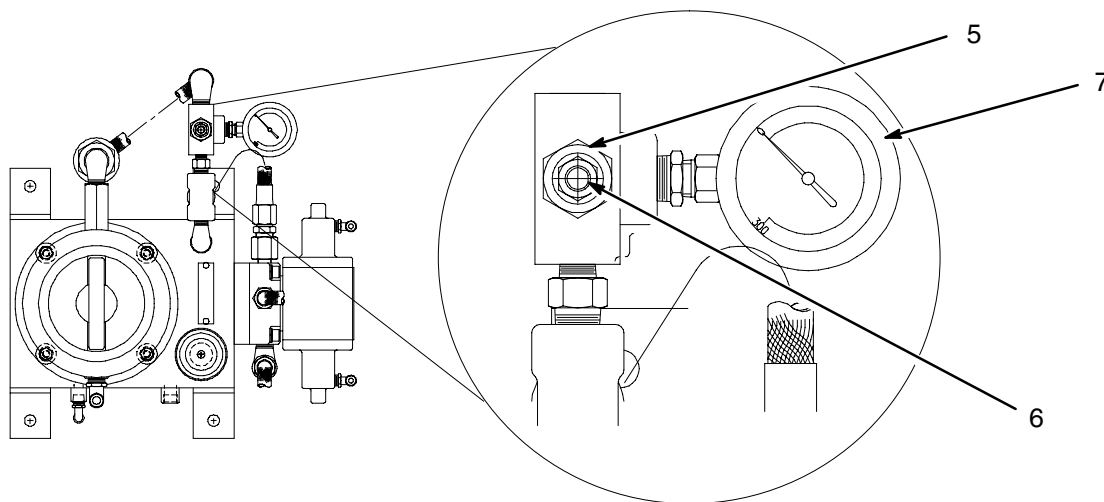

Fig. 12
3. Set the hydraulic fluid regulator (Fig. 12):
- a. Loosen the locking nut (5) with a 9/16" wrench/
- b. Set fluid pressure to the desired pressure by turning the regulator set screw (6) with a 5/32" hex key. Watch the fluid pressure gauge (7) for changes.
- c. Tighten the locknut (5).